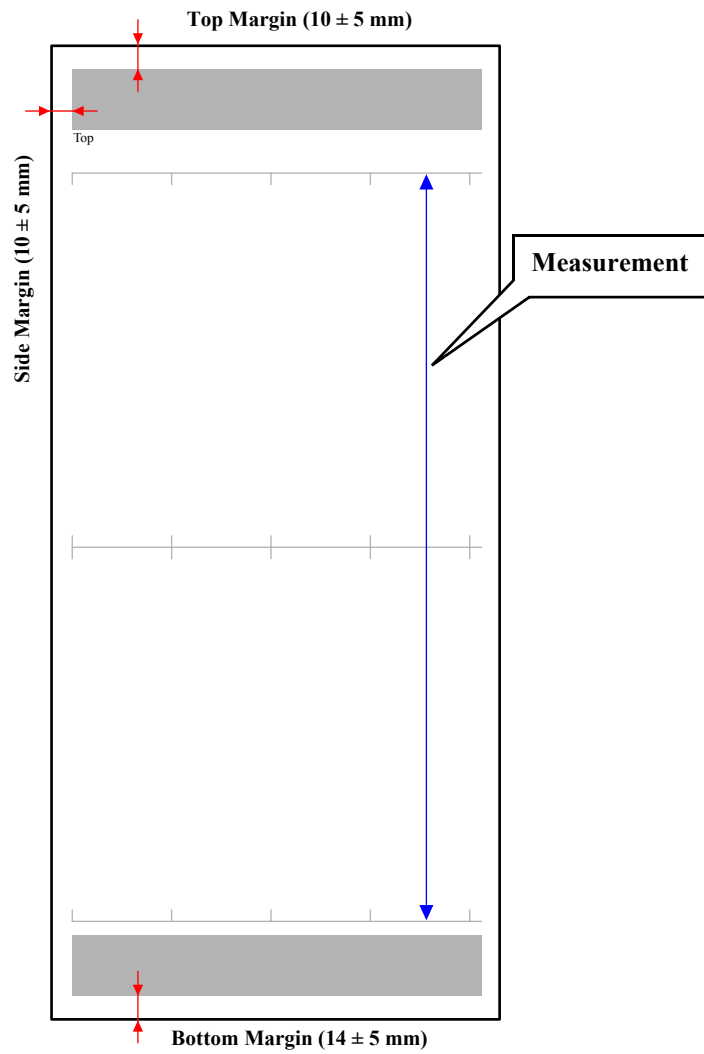

Figure 5-29. Adjustment Pattern
3. Referring to Figure 5-29, measure the distance of the following four points.